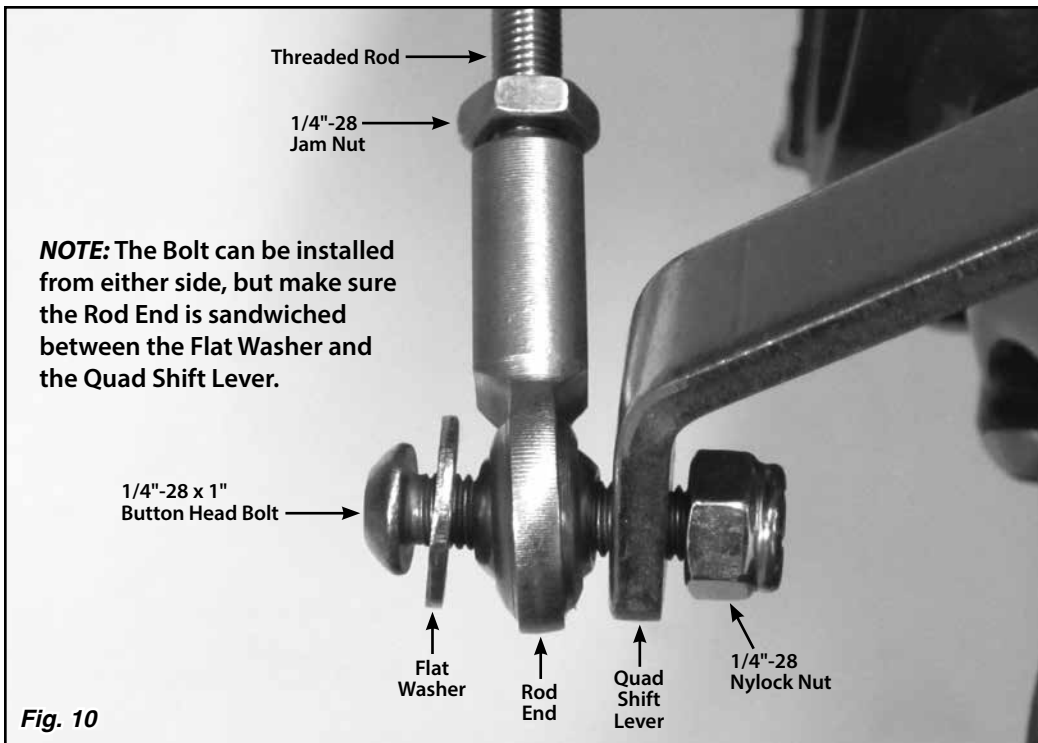
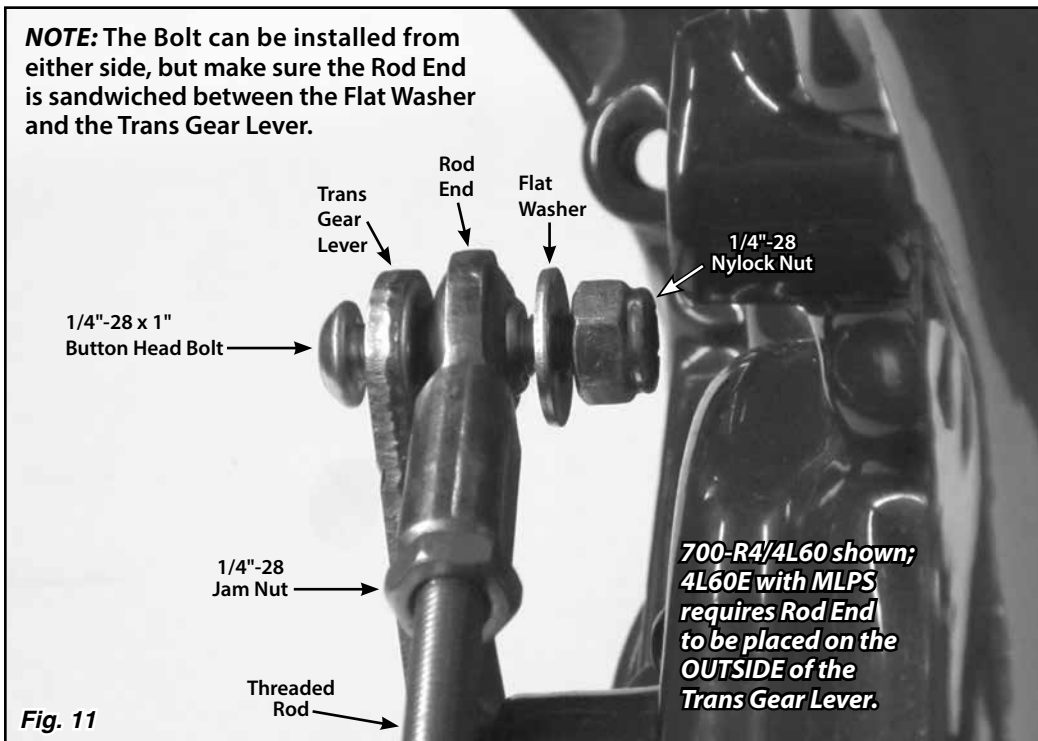

Fig. 10
Fig. 11
Step 15: Verify both 1/4\"-28 jam nuts are on the threaded rod, and install a rod end onto each end of the threaded rod. Attach the threaded rod assembly to the **inside** of the trans gear lever (**EXCEPT** 4L60E with MLPS, rod end must go on **outside** of trans gear lever) and to the **outside** of the quad shift lever using the 1/4\"-28 x 1\" button head bolts, flat washers, and nylock nuts as shown in **Fig. 10** and **Fig. 11**. The button head bolts can be installed from either direction, but make sure the rod end is sandwiched between the flat washer and the trans gear lever or quad shift lever.